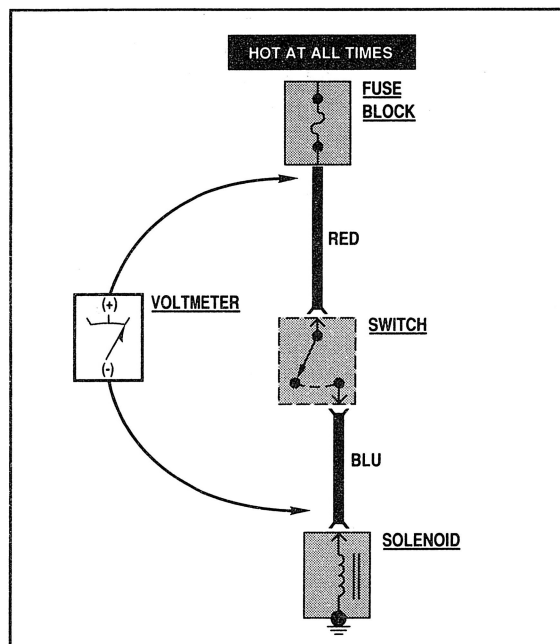

Figure 8 - Voltage Drop Test
3. Operate the circuit (Figure 8).